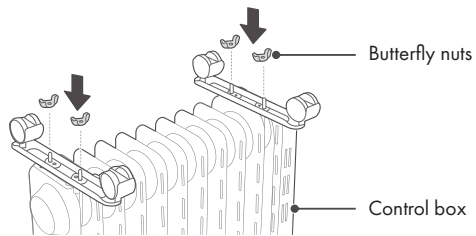

Figure 2
3. As shown in figure 2, two sets of caster components are tightened with four butterfly nuts. Install solid and then put the appliance in place, just put the wheels on the ground.